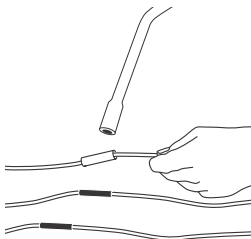

Fig. 8 Applying heat to the connector
5. Center the heat shrink tubing over the connector. Using a propane torch, lighter, or electric heat gun, uniformly heat the tubing starting first in the center working towards the ends. See fig. 8.